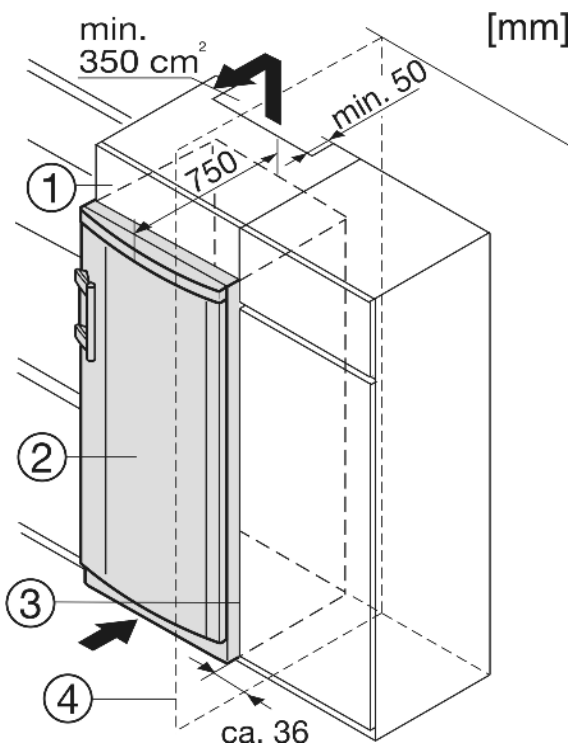

Fig. 8
- (1) Stack cabinet
- (2) Appliance
- (3) Kitchen cabinet
- (4) Wall
The appliance can be inserted into a row of kitchen units. To match the appliance *Fig. 8 (2)* to the height of the row of units, a suitable stack cabinet *Fig. 8 (1)* can be fitted above the appliance.
If the appliance is installed with the hinges next to a wall *Fig. 8 (4)*, the distance between appliance and wall has to be at least 36 mm. This corresponds to the projection of the handle when the door is open.